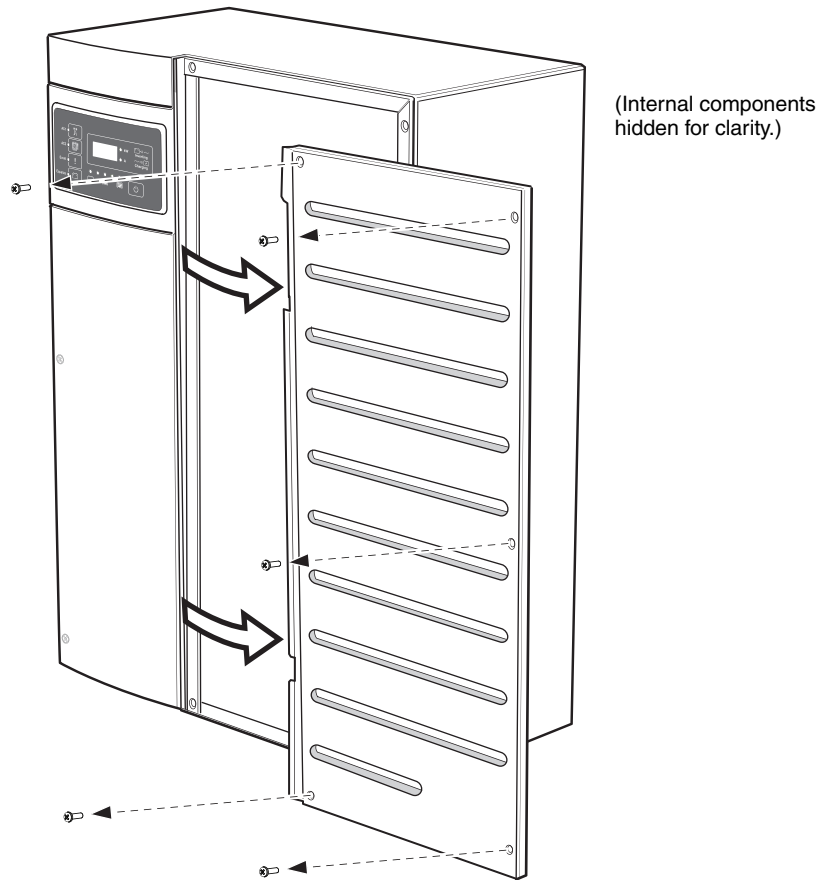

Figure 5-3 Right-side panel removal
3. For easier access, remove the right-side panel of the Conext XW+, as shown in Figure 5-3.